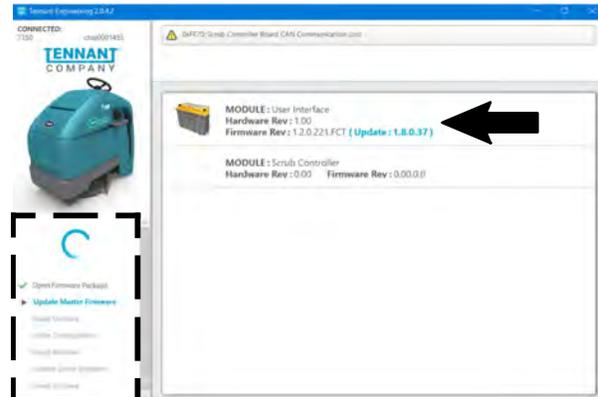

FIG. 55
55. The firmware update screen appears and will begin programming the machine for the lithium batteries. The process status indicator and firmware update status box appear on the left side of the screen. (Fig. 55)